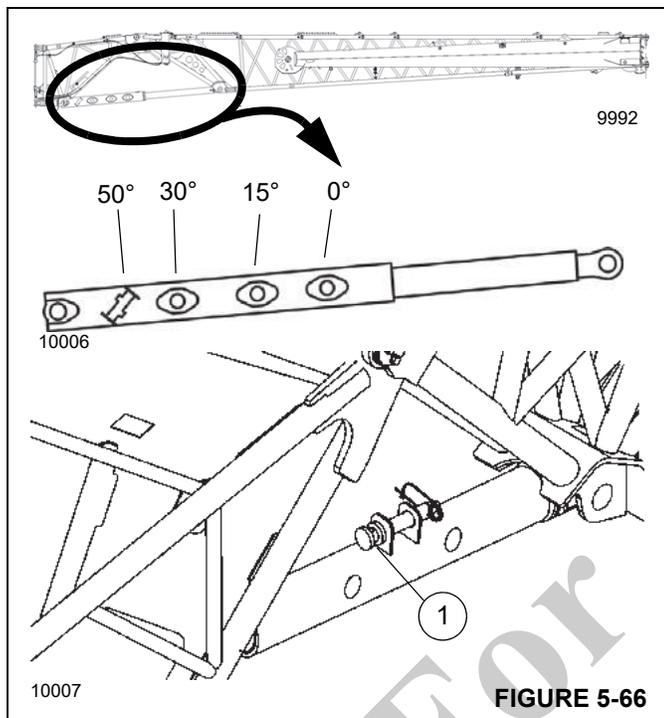

FIGURE 5-66
The boom extension can be set manually to the positions shown in Figure 5-66.
2. Lift or lower the extension with the auxiliary crane until the adjusting pin (1, Figure 5-66) can be installed into the position for the required angle.
6. Remove the offset pin (1, Figure 5-66). Lower the boom extension head on the timbers or structure as necessary to make it easier to remove the pin.